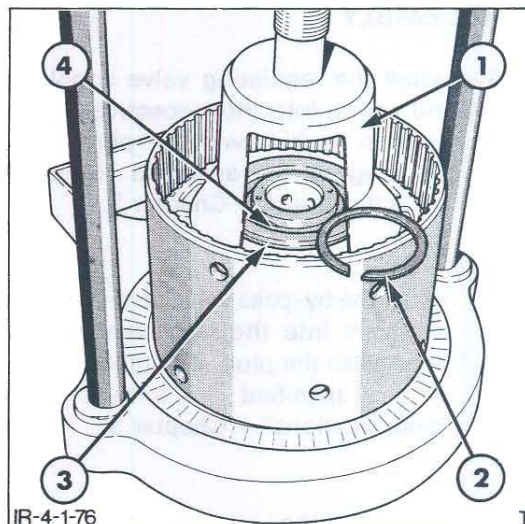

Figure 76
5. Using a press and modified Tool No. FT4101 or 1312 see "Specifications" – Chapter 3 along with a suitable size washer as shown in Figure 76, compress the spring enough to remove the snap ring with a screwdriver. Gradually, relieve pressure on the spring, then remove the spring seat and spring.
2. Position the spring and spring seat on the piston, then compress the spring with a press, using modified Tool No. FT 4101 or 1312, and a suitable washer, as shown in Figure 76, so the snap ring can be installed. Make sure the snap ring is fully seated before relieving pressure on the spring.